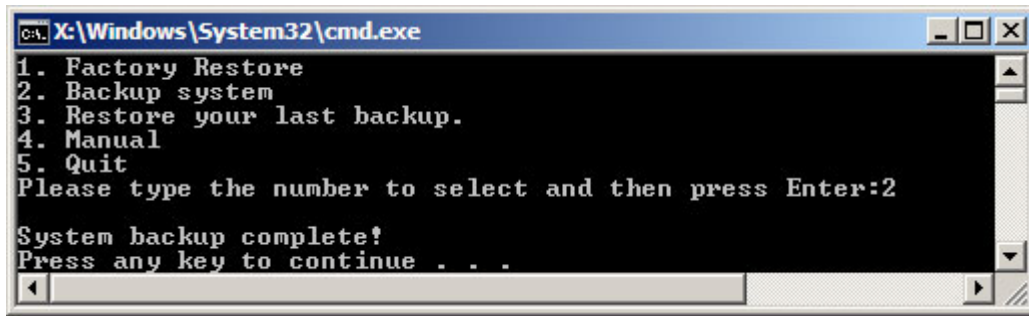

Figure C-37: System Backup Complete Window
Step 6: The screen shown in **Figure C-37** appears when system backup is complete. Press any key to reboot the system.